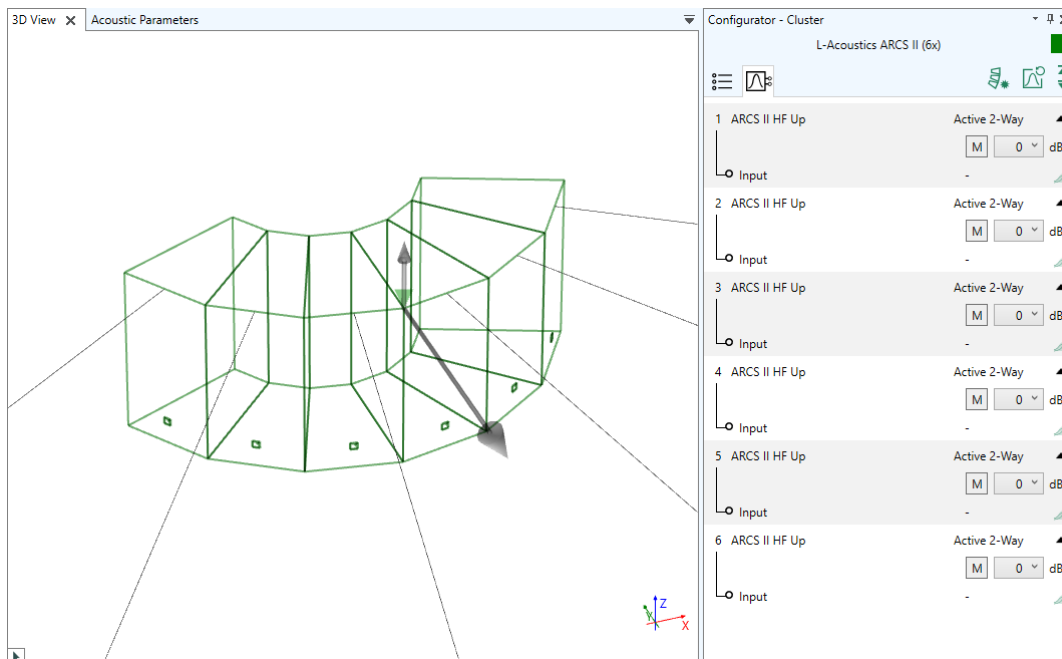

Figure 8.25 Input configuration view showing a predefined base setup with 6 elements.
- The input configuration view can be accessed via the  tab. It shows a list of all array elements and their respective filter settings (Figure 8.25). The  button can be used to reset the filter configuration. For more details, please see section 8.7.4.